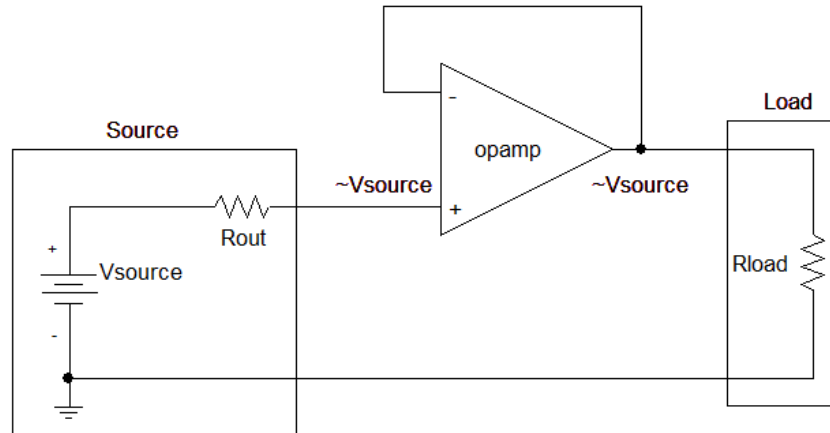

Figure 3 – Due to high input resistance, no current enters the op amp, therefore the voltage at the + terminal is approximately equal to V_{source} .
2. Now, in Multisim add the voltage follower to your circuit as in Fig. 3. Calculate the load voltages for each of the three load resistors in part 1. Email a screenshot of this circuit for the $100\ \Omega$ case, with the multimeter open.